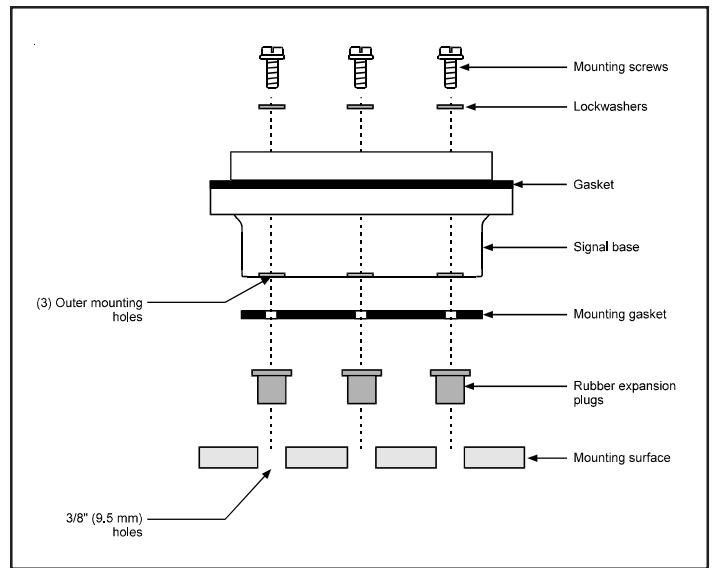

Figure 4. Direct Surface Mounting of 97 Series Signals
- c. Install the three rubber expansion plugs provided in the hardware kit into the three outer holes in the mounting surface as indicated in Figure 4.
- e. Align the holes in the mounting gasket with the holes in the signal base. Insert the three screws with lockwashers (provided in the hardware kit) through the three mounting holes inside the signal base and align the screws with the rubber expansion plugs as shown in Figure 4. Press the signal base firmly against the mounting surface and tighten the screws. Proceed to step 3.